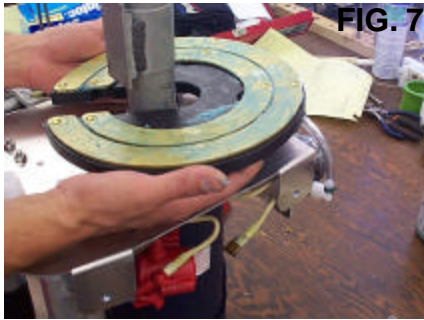
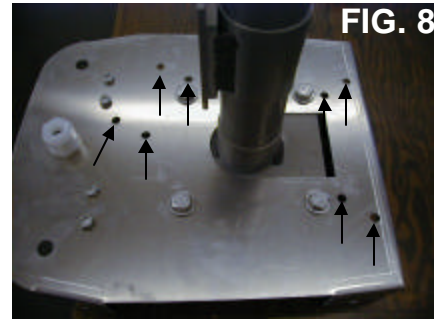

FIG. 7
FIG. 8
4. Remove mount with slip rings (fig. 7), remove all insulator bushings from base plate as indicated (fig. 8) and discard.